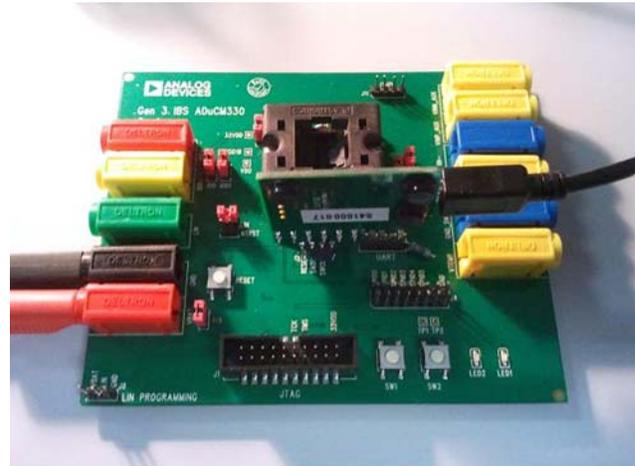

Figure 4. Mini-Link Debugger/Programmer Connection
2. Connect the debugger/programmer, noting the correct orientation as shown in Figure 4.
J2	J2 is the SWD programming interface. Check orientation with Figure 4.